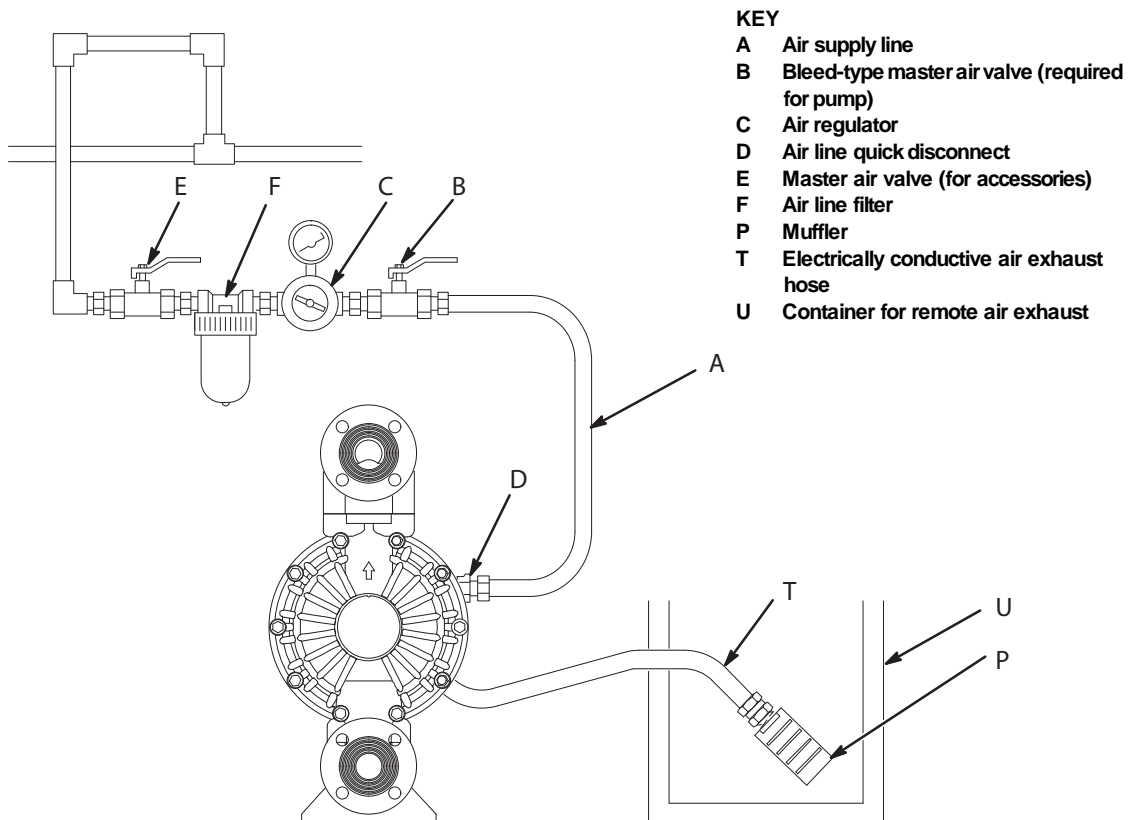

Fig. 6.
Diaphragm failure will cause the fluid being pumped to exhaust with the air. Place an appropriate container at the end of the air exhaust line to catch the fluid. See Fig. 6.
1. Remove the muffler (P) from the pump air exhaust port.
2. Install an electrically conductive air exhaust hose (S) and connect the muffler (P) to the other end of the hose. The minimum size for the air exhaust hose is 3/4 in. (19 mm) ID. If a hose longer than 15 ft (4.57 m) is required, use a larger diameter hose. Avoid sharp bends or kinks in the hose. See Fig. 6.
3. Place a container (U) at the end of the air exhaust line to catch fluid in case a diaphragm ruptures.